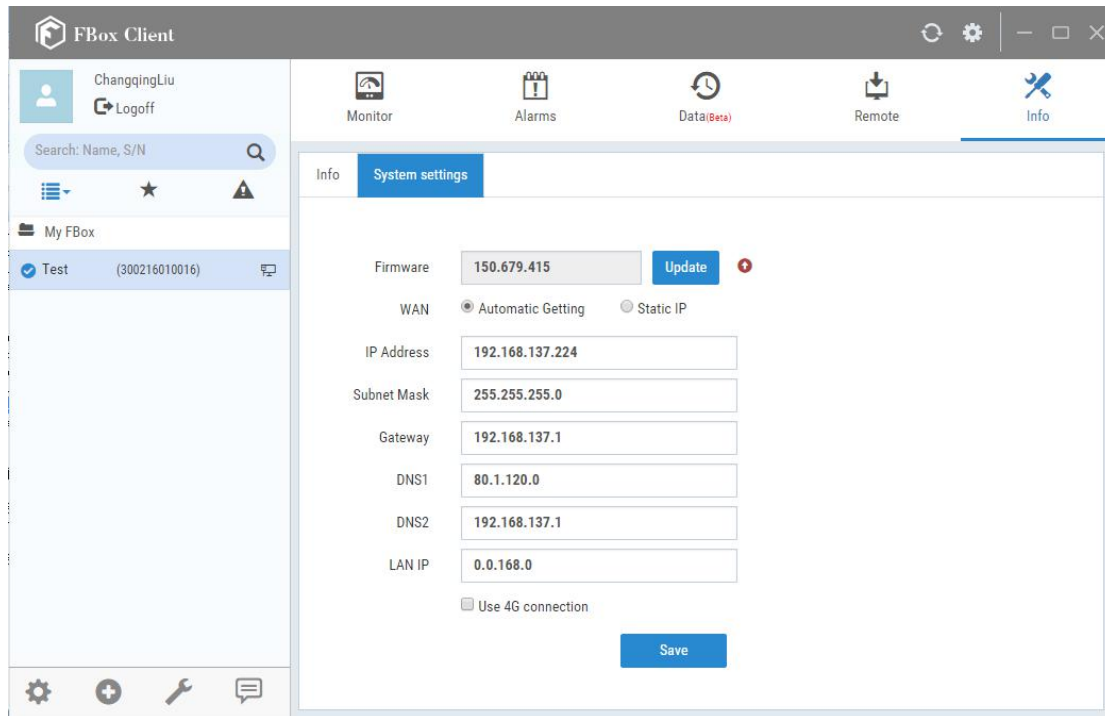

Fig. 4.2-7 System settings
(1) Run the FBox PC Client software and login your account. In the FBox device list area, select the FBox required to modify the network configuration. Then click the "Info" option in the major functional area and select the "System settings" subtab, as shown in Fig. 4.2-7.